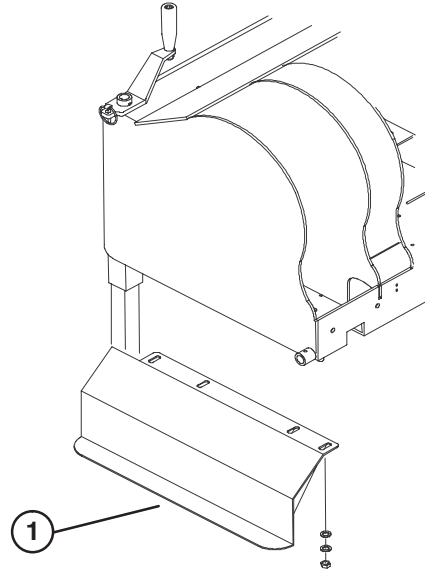

Figure 5
2. Position appropriate side guard (left or right) onto mounting studs (Fig. 5).